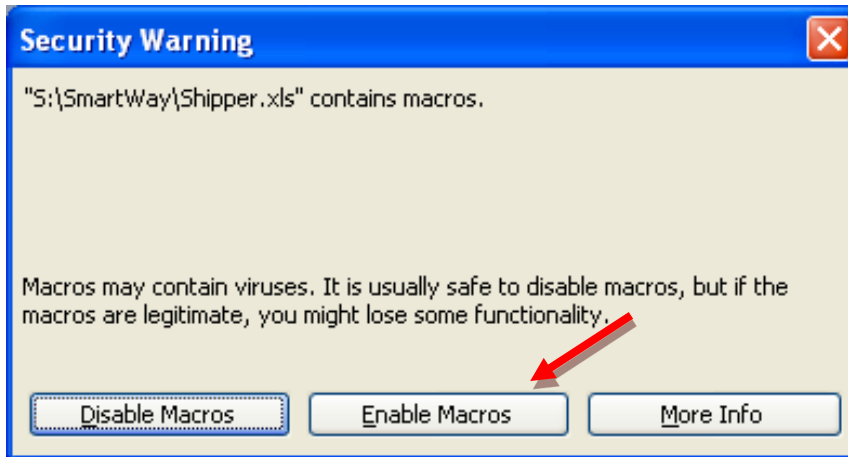

Figure 3: Screen showing “Enable Macros” button
3. You will see a security-warning box appear (**Figure 3**). Select the